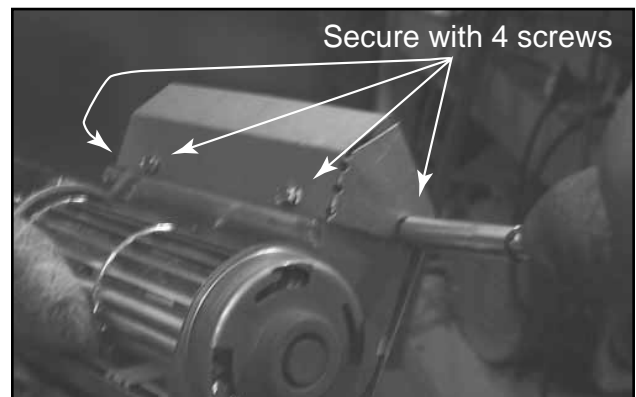

Figure 6
- Secure the air deflector with four screws as shown in Figure 6.